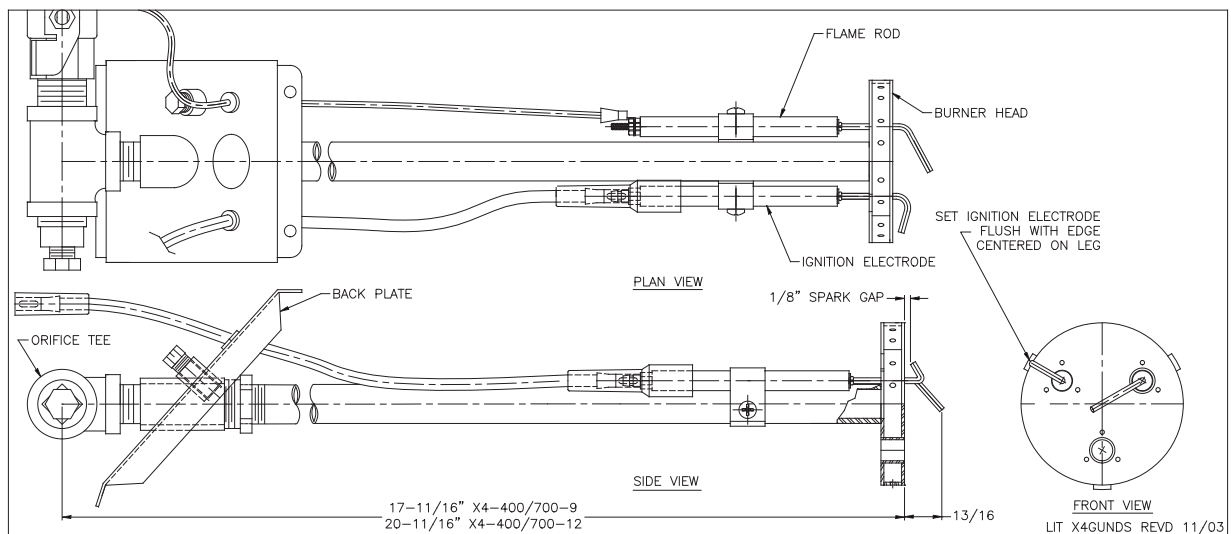

Figure 9: Detail Direct Spark Gun Assembly
- 7.13.1 Before attempting burner start up make certain that you are familiar with the operation of the Primary Safety Control and other components being used on this specific application. **Refer to Figure 9** to verify the correct position of the ignition electrode placement since shipment may have altered the placement.